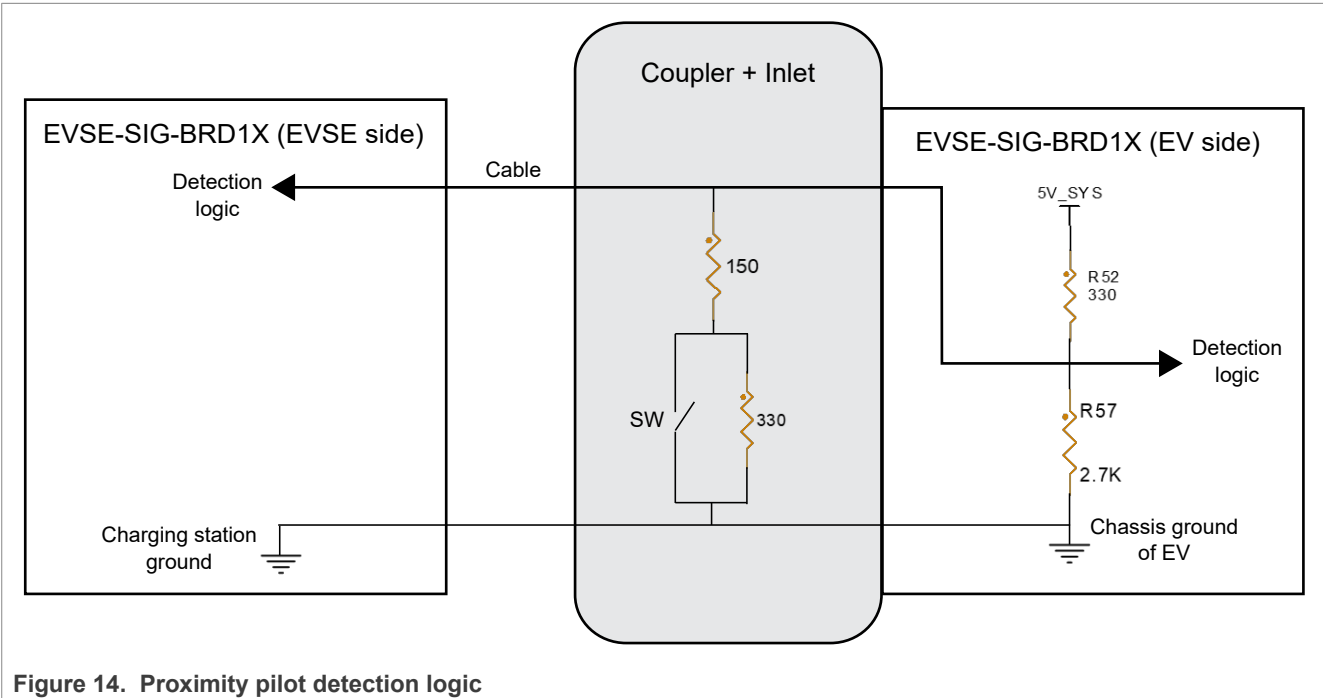

Figure 14. Proximity pilot detection logic
The proximity detection scheme is shown in Figure 14.
- If the coupler is connected and the switch in Figure 14 is closed, PP_DET = 1 V and the WAKEUP signal becomes high.
- If the coupler is connected and the switch in Figure 14 is open, PP_DET = 1.8 V and the WAKEUP signal becomes high.